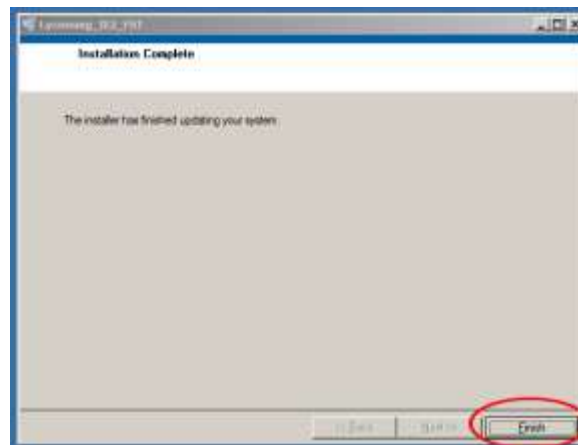

Figure C-19
16. After the “Installation Complete” message is shown, click the **Finish** button (Figure C-19).